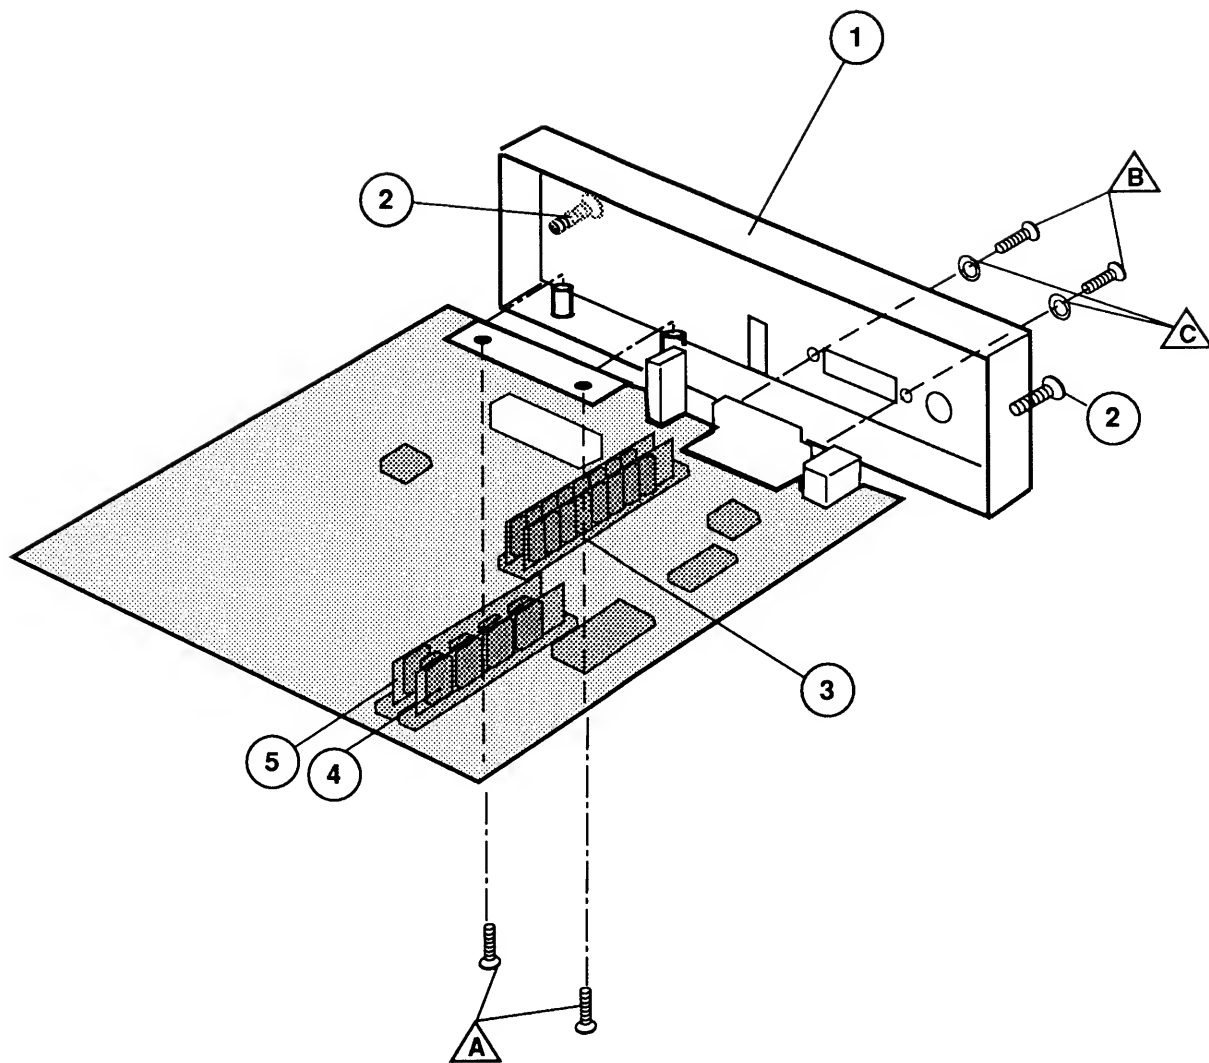

Figure 25
□ I/O BOARD – LW NT (Figure 25)